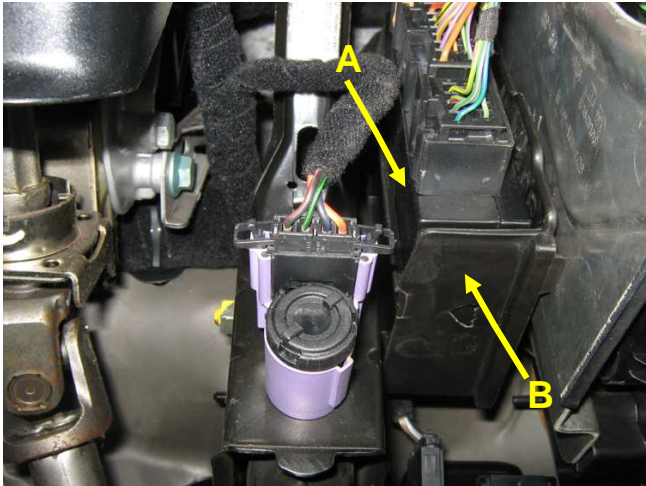

Figure 2
- Remove the comfort control module (Fig. 2, pos. A)
- Remove the comfort control module bracket (Fig. 2, pos. B)